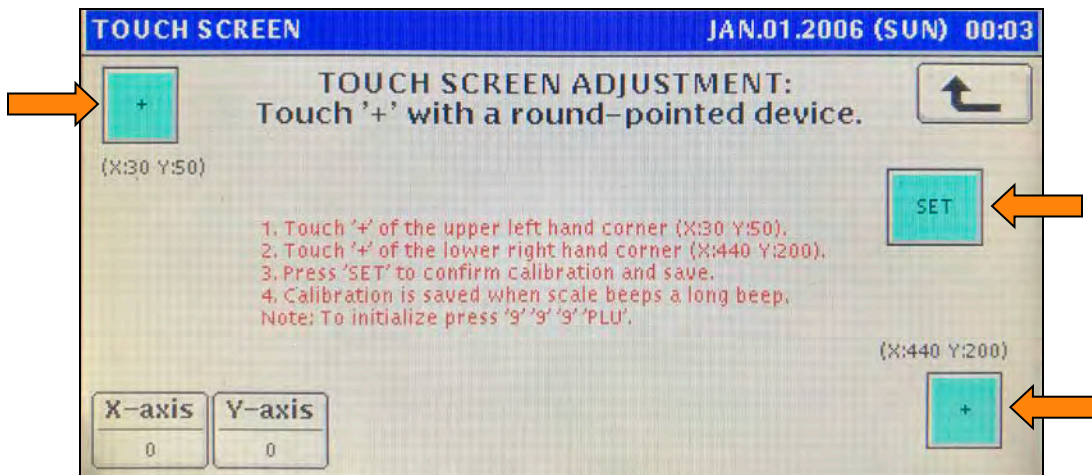

Figure 25. Touch Screen Calibration Screen
14. Follow the instructions on the screen to calibrate the touchscreen. Use a pen or pencil to accurately press the "+" marks. See Figure 25.